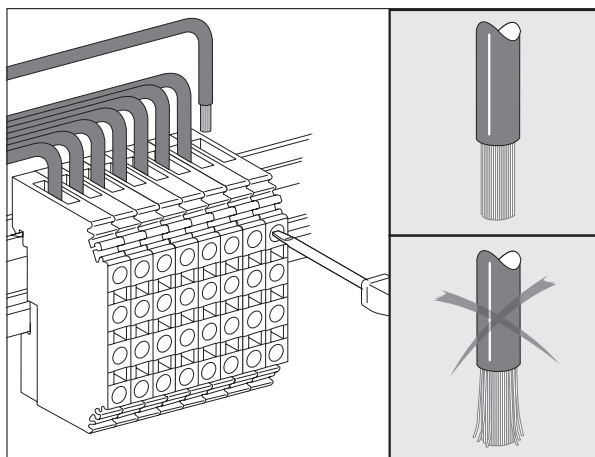

Fig. 29
- All strands of a conductor must be inserted in the hole of the terminal (see Fig. 29).